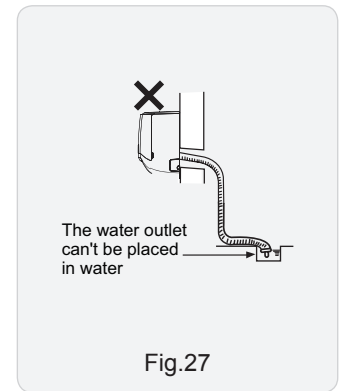

Fig.27
(3) The water outlet cant be placed in water in order to drain smoothly. (As show in Fig.27)